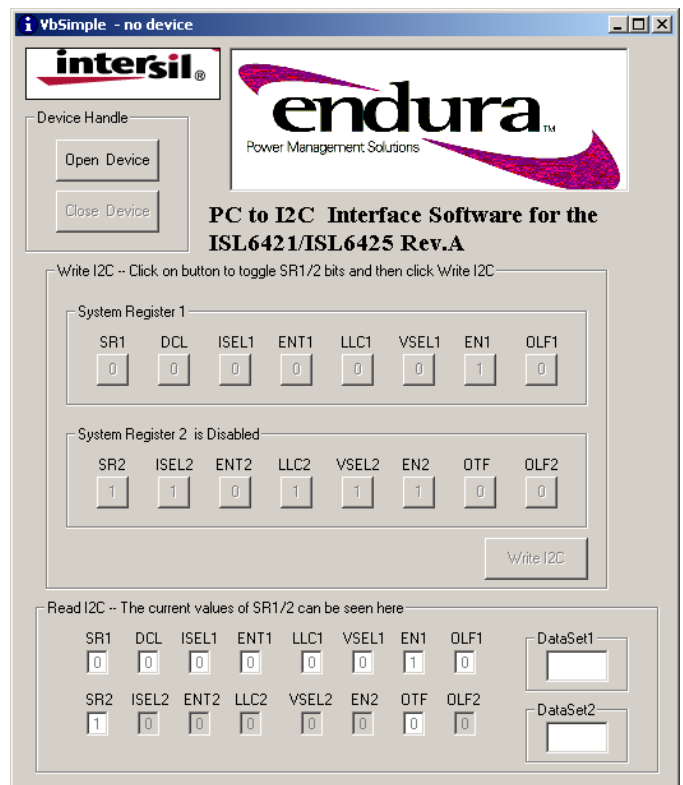

FIGURE 3. PC TO I2C APPLICATION WINDOW
9. Run the ISL6421A\_I2C.exe program copied to C:\some directory'. Figure 3 shows the PC to I2C software application window. Click the 'Open Device' button.